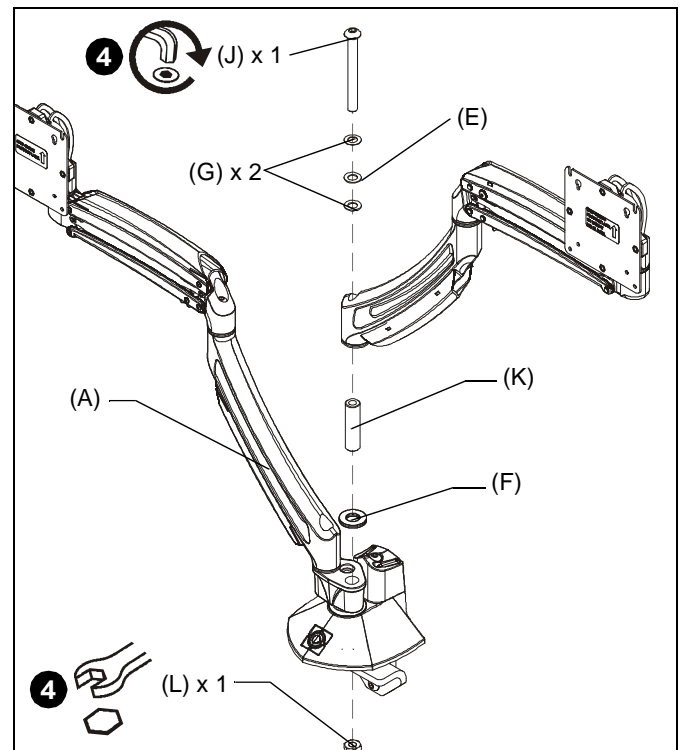

Figure 3
- Reattach original mount arm (removed in Step 2) using one 5/16-18 x 3 1/8" button head cap screw (J), one plastic washer (E), two stainless steel washers (G), one pivot pin (K), one pivot pin spacer (F), and one 5/16" lock nut (L). (See Figure 3)